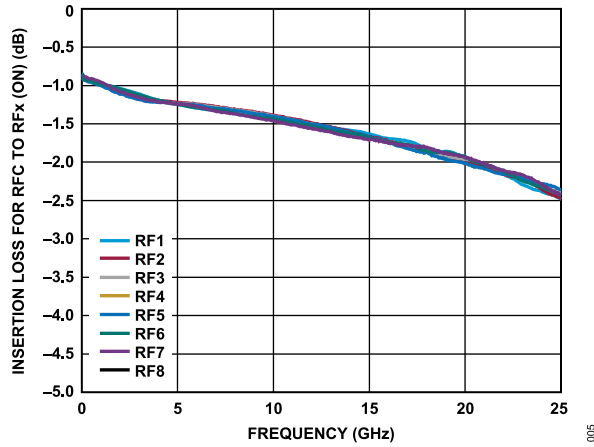

Figure 5. Insertion Loss for RFC to RFX (On) vs. Frequency
6. The ADRF5080-EVALZ is expected to have an insertion loss of 2.00 dB at 20 GHz. See the expected results in Figure 5.